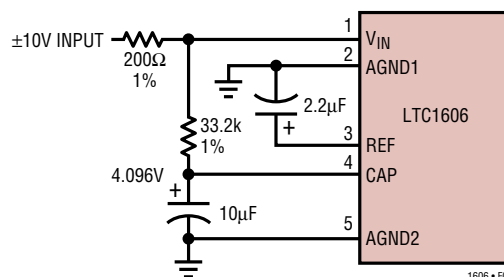
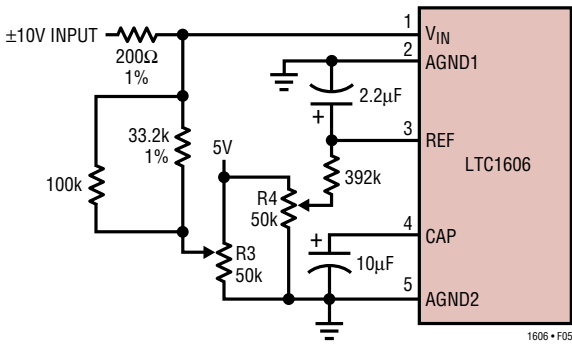

Figure 4.  $\pm 10V$  Input Without Trim
Figure 5. ±10V Input with Offset and Gain Trim
**Note 12:** As measured with fixed resistors shown in Figure 4. Adjustable to zero with external potentiometer.
The LTC1606 offset and full-scale errors have been trimmed at the factory with the external resistors shown in Figure 4. This allows for external adjustment of offset and full scale in applications where absolute accuracy is important. See Figure 5 for the offset and gain trim circuit. The 100k resistor in parallel with the 33.2k is only needed for externally trimming the offset. First, adjust the offset to zero by adjusting resistor R3. Apply an input voltage of  $-152.6\mu V$  ( $-0.5LSB$ ) and adjust R3 so the code is